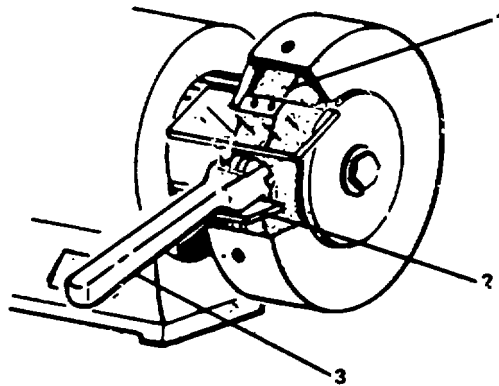

Figure 2-12. Service Bench Grinder.
c. Hold grinding wheel dresser (3, Figure 2-12) by cutting wheels of dresser aligned with but not